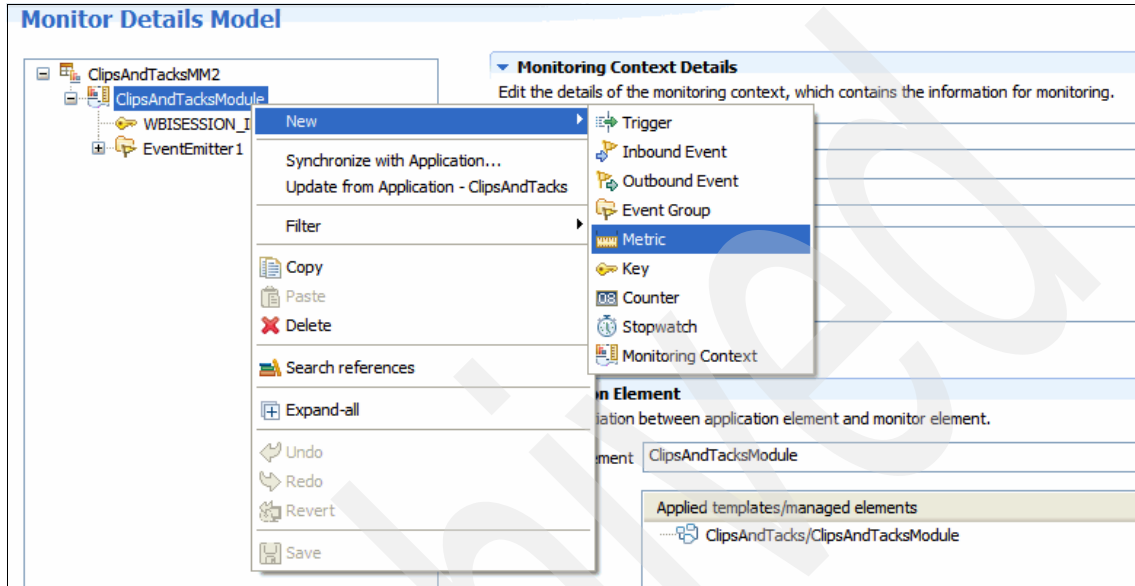

Figure 6-105 Creating a new metric
1. In the monitor model editor (Figure 6-105), expand **ClipAndTacksMM2**, right-click **ClipsAndTacksModule**, and select **New** → **Metric**.